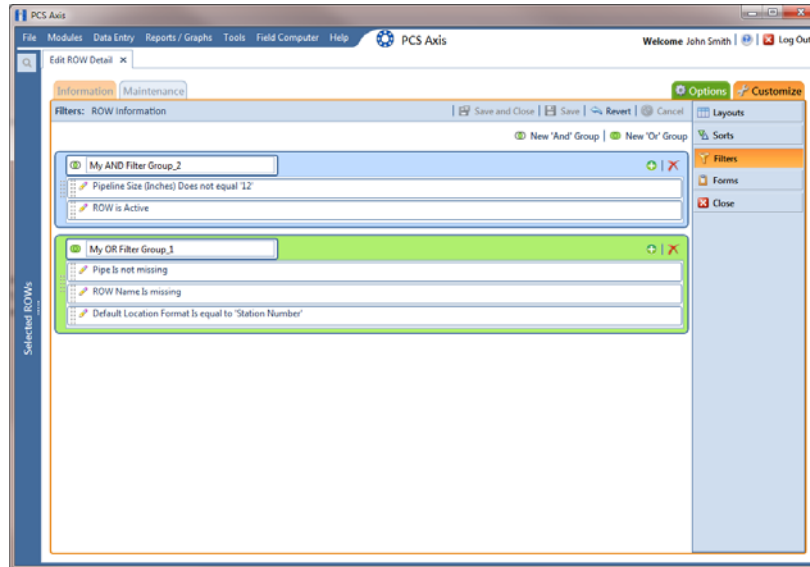

Figure 3-33. Filters
- 4 Click the **Customize** tab  then the **Filters** button  to open the *Filters* page (Figure 3-33).